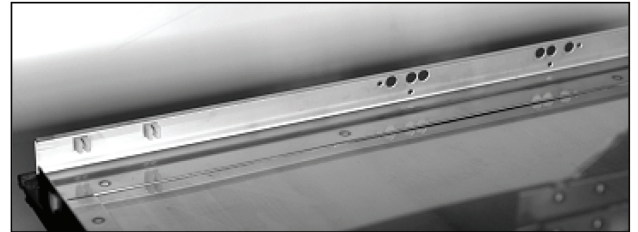
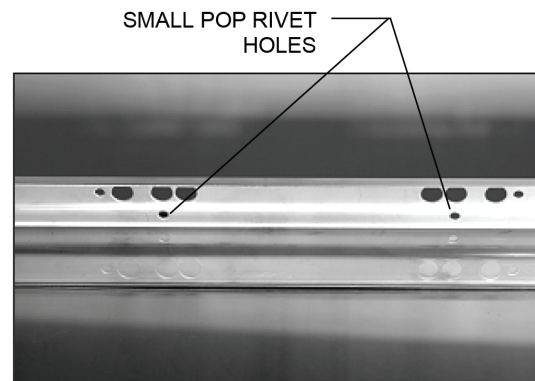
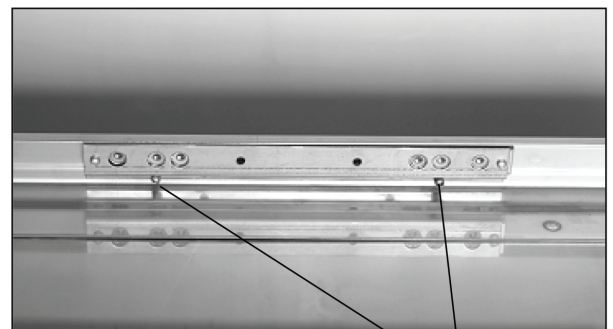

Figure 1
Figure 2
Figure 3
4. Remove old nutplate or existing handle mount and discard. Your door should now look similar to Figure 1. Figure 2 shows a close-up of the handle area. Your door may not have all of the holes shown in the photo. If you do not have the small pop rivet holes pointed out in Figure 2, it is recommended that you line up the new nutplate with the large holes on the door in the position shown in Figure 3. Mark the position of the small holes with a pencil where pop rivets will go as shown in Figure 3. Drill out 1/8" holes in the two places marked. If a drill and bit are not available, an alternate method is to use silicone caulk to secure the nutplate in place.